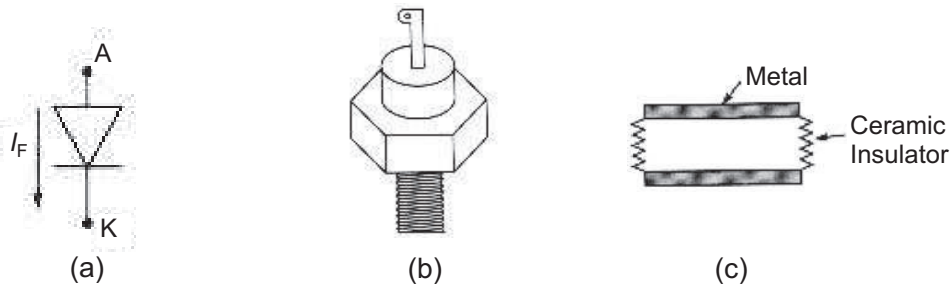

FIGURE 2.1 Power diode: (a) symbol; (b) and (c) types of packaging.
Among all the static switching devices used in power electronics (PE), the power diode is perhaps the simplest. Its circuit symbol, shown in Fig. 2.1, is a two terminal device, and with terminal A known as the anode and terminal K known as the cathode. If terminal A experiences a higher potential compared to terminal K, the device is said to be forward biased and a forward current ( $I_F$ ) will flow through the device in the direction as shown. This causes a small voltage drop across the device ( $<1\text{ V}$ ), which under ideal conditions is usually ignored. By contrast, when a diode is reverse biased, it does not conduct and the diode then experiences a small current flowing in the reverse direction called the leakage current. Both forward voltage drop and leakage current are ignored in an ideal diode. In PE applications a diode is usually considered to be an ideal static switch.